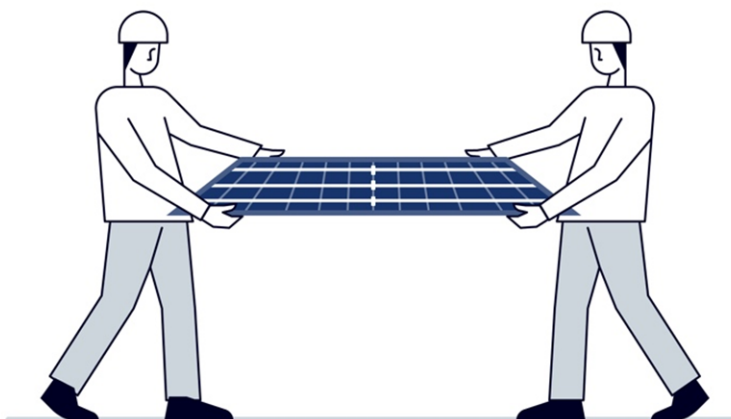

Figure 19: Module handling.
- g) PV Modules must be grabbed from the aluminum frame with two hands (Figure 19).